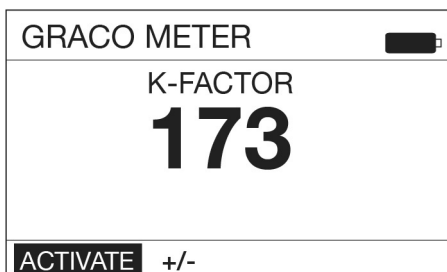

FIG. 26
- The calibration k-factor screen shown in FIG. 26 displays.